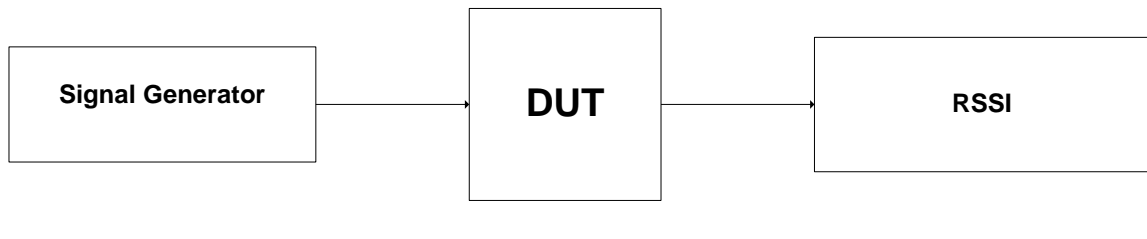

Figure 1. Test Setup.
Appendix A Figure 1 DSP/NAV board
- 1) Test Setup as shown in figure 1.